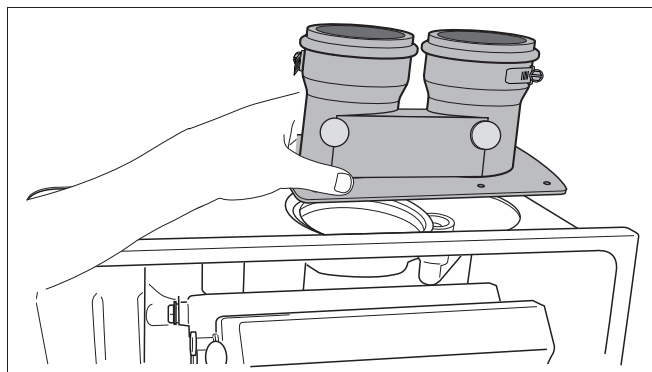

Fig. 14 Placing the flue gas adapter
- Remove the protective cap from the internal condens bypass pipe. Place the flue gas adapter and connect the internal condens bypass pipe (see fig. 14).